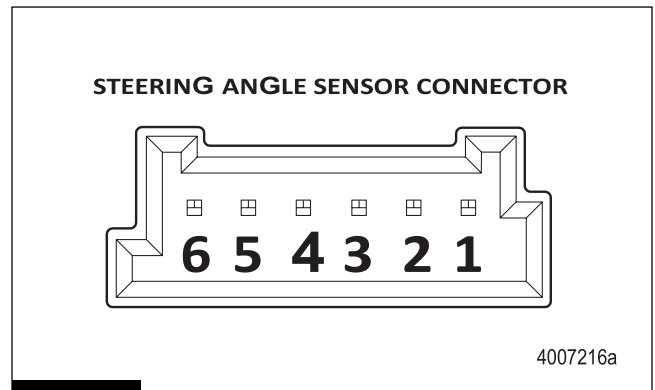
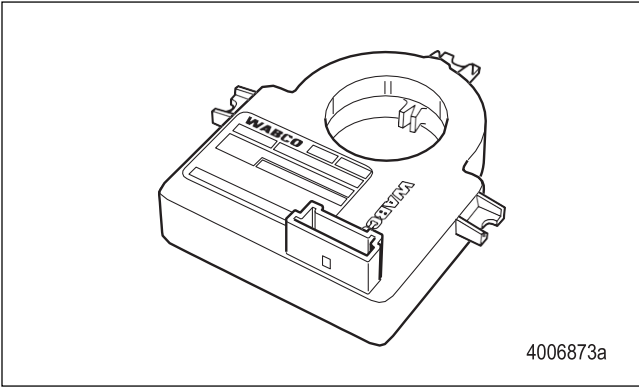
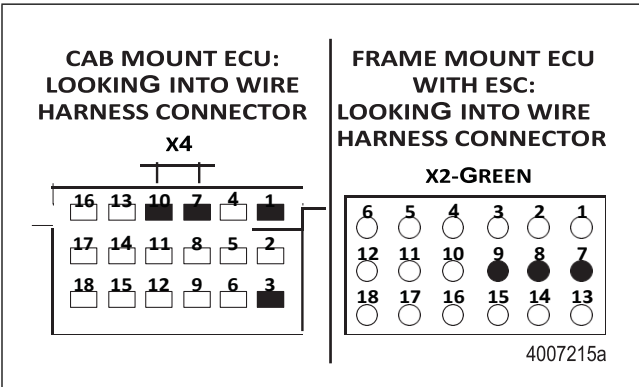

Figure 3.32
Figure 3.33
Figure 3.34
- Take measurements at the SAS harness connector. Pins 3 and 4 of the Steering Angle Sensor are internally connected to each other. In the harness which mates to the SAS, one of these two circuits will have a jumper to pin 2 of the SAS. This jumper must be present for correct sensor operation. The other CAN-High circuit which is not jumped to pin 2 of the SAS will be connected to the ECU at the pins specified below. Figure 3.32, Figure 3.33 and Figure 3.34.